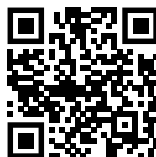

Fig. 151
- Hapni [Liebherr SmartMonitoring Dashboard](https://smartmonitoring.liebherr.com). (shihni Fig. 151)